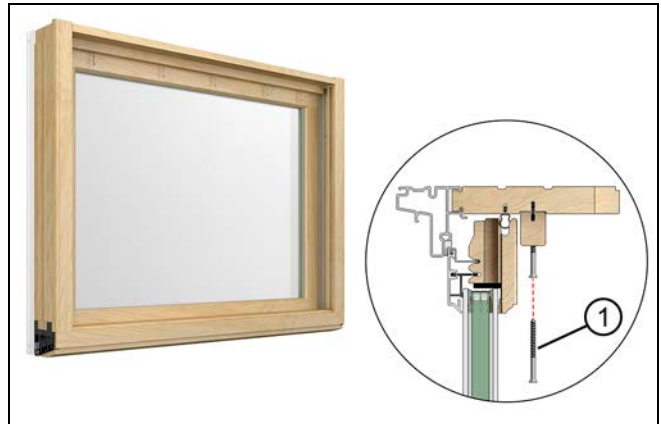

Figure 76
7. For IZ3 Transoms, drive #6 x 1 5/8" trim head screws through the parting stop and into the head jamb. Space the screws 2-4" (51-102) from the ends and 6-8" (152-203) on center. See Figure 76.